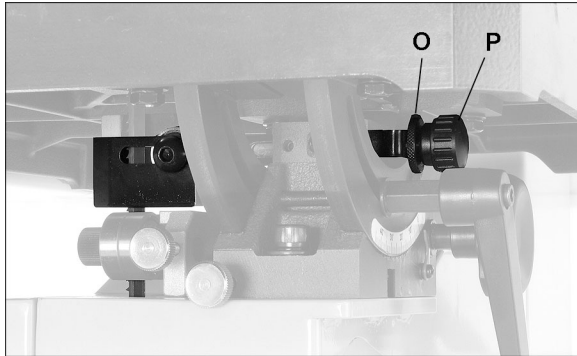

Figure 28
4. Loosen lock knob (A, Figure 28) and raise guide post to a high position.